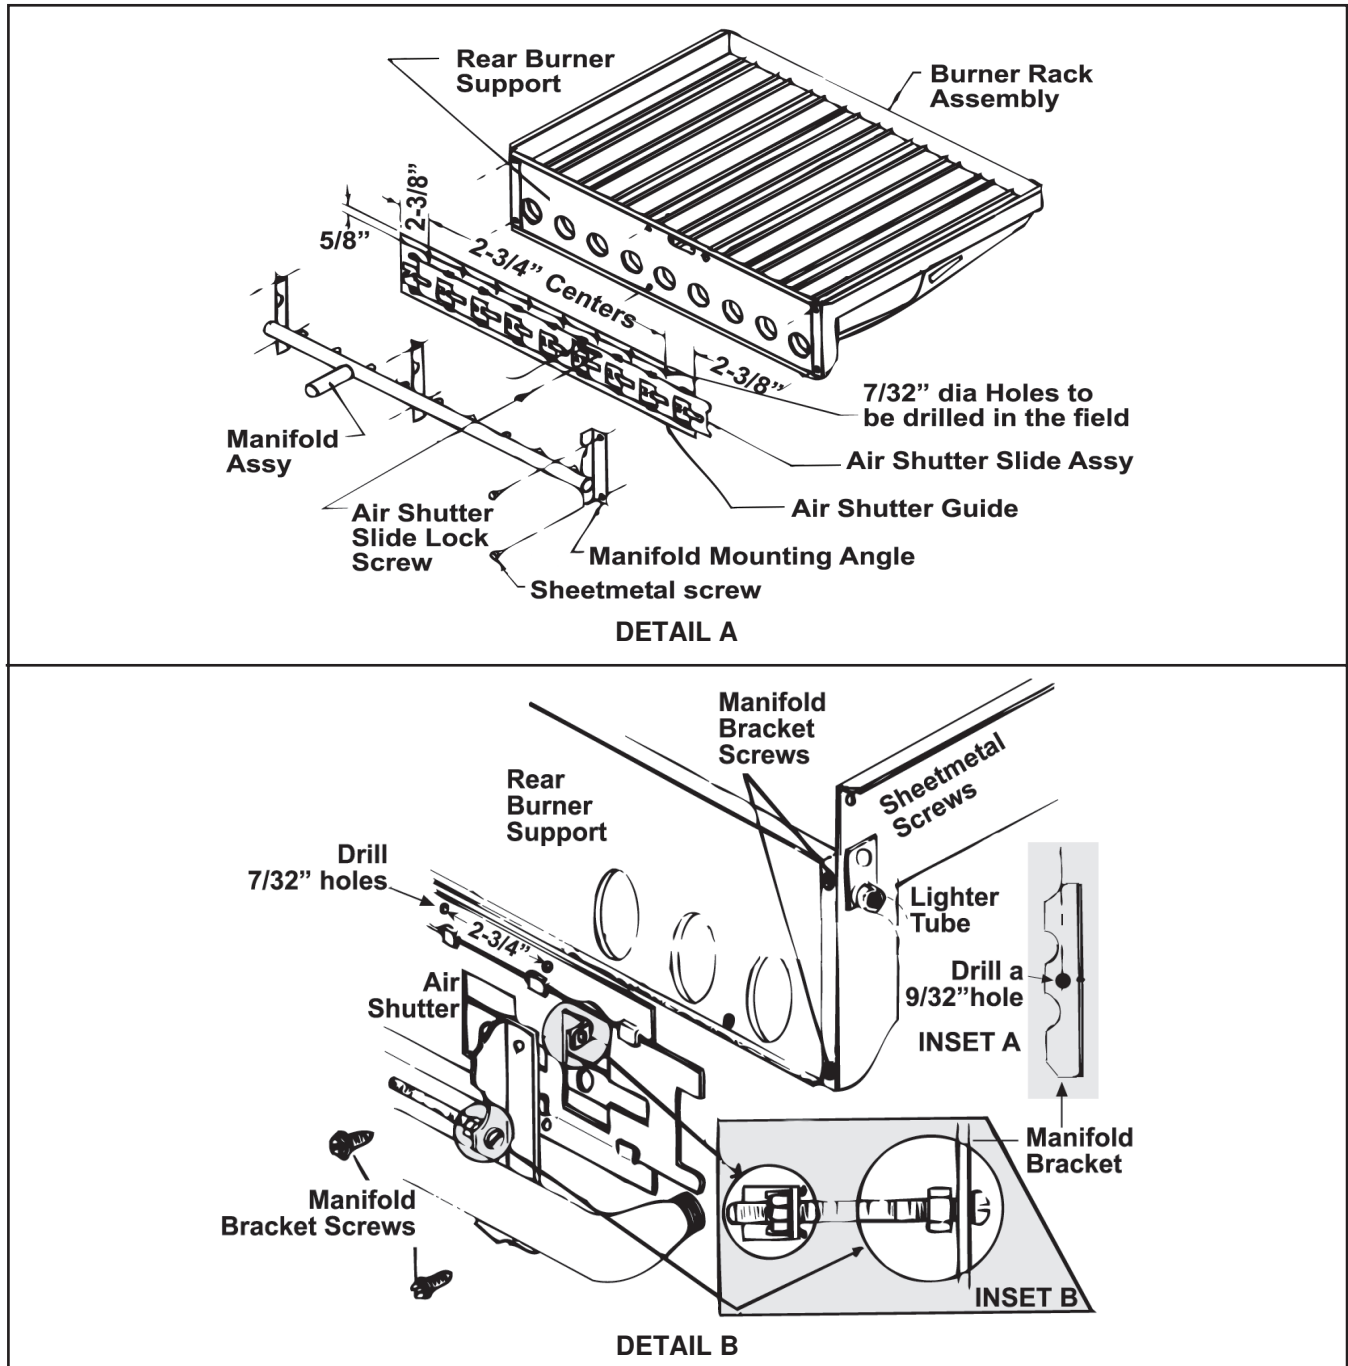

Figure 1. Burner Air Shutter Installation
7. For units being converted to propane, install burner air shutters (see Figure 1):
- b. For model EEDU (see Figure 1, DETAIL A), position air shutter assembly on rear burner support so that clearance holes in lower edge of air shutter guide fit over extruded holes located on rear burner support.
- c. For models RP, SC, and X (see Figure 1, DETAIL B):
- (1) Drill 9/32-inch hole in corner of manifold bracket next to controls—in 3/8 inch from edge of bracket (see INSET A).
- (2) Insert 1/4-inch × 2-1/2-inch adjustment bolt through 9/32-inch hole drilled in manifold bracket (see INSET B), install 1/4-inch locknut onto bolt, and tighten until locknut clears bracket by 1/16 inch.
- (3) Insert threaded end of adjustment bolt into adjustment bolt tab on air shutter and turn into thread until manifold bracket lines up with mounting holes.